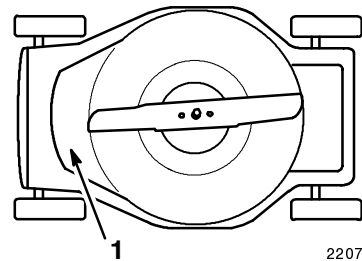

Figure 18
- Clean the underside of the lawn mower housing. Be particularly careful to keep the front cavity clear of all debris (Fig. 18). Remove dirt and grass clippings with a hardwood scraper. Avoid burrs and sharp edges.
- Tip the lawn mower on its side (Fig. 18).